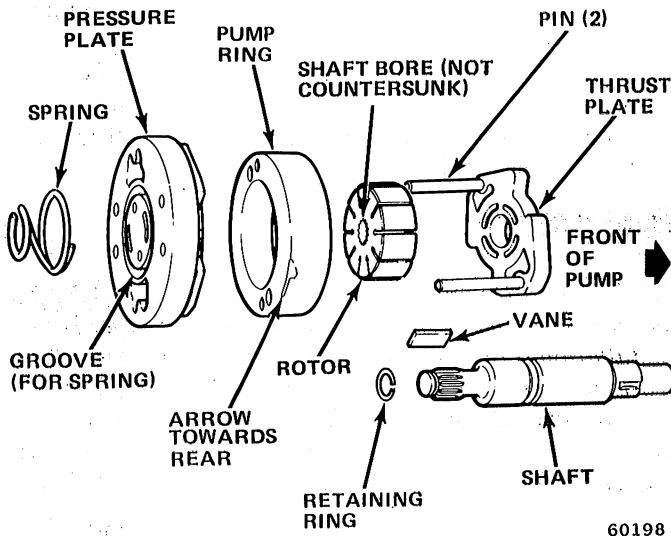

Fig. 2L-56 Pump Shaft Assembly Sequence
- (8) Install pump ring on dowel pins and over rotor and thrust plate. Pump rotation arrow on pump ring must face upward when ring is installed (fig. 2L-58). Do not displace end plate O-ring during ring installation.
- (9) Install rotor vanes in rotor slots (fig. 2L-59). Rounded edges of vanes must face outward.
- (10) Lubricate pressure plate outside diameter and chamfered surface with petroleum jelly.